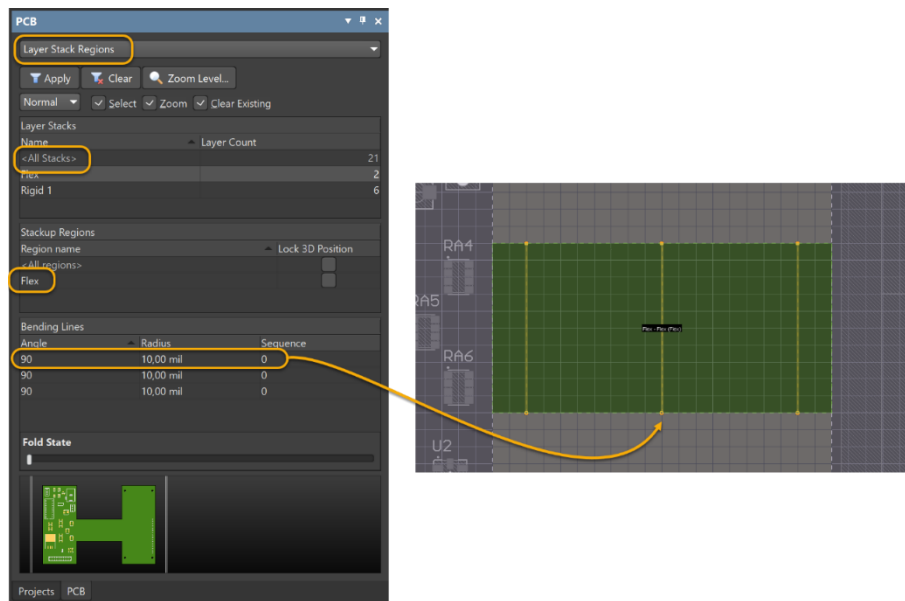

Figure 12. PCB panel to modify behavior of bending lines
- If you click on a Bending line, the corresponding bend will be highlighted in the PCB, as shown in Figure 12.